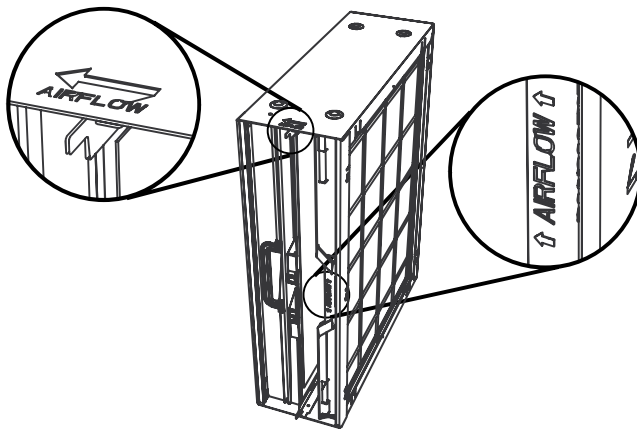

Figure 35 Airflow Direction
- Replace the PRE-FILTER into the air cleaner. Ensure that the "AIRFLOW indicator arrow" on the PREFILTER is pointing in the same direction as the "AIRFLOW indicator arrow" on the air cleaner cabinet as shown in Figure 35.